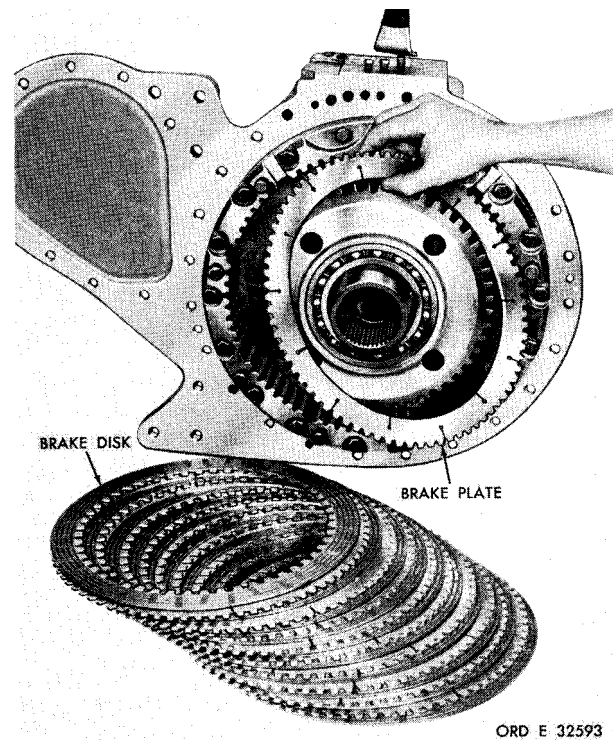

Figure 174. Installing right-brake plates and disks
**XC2** **u.** Install 10 internal- and 10 external-splined brake plates and disks, beginning with an external-splined brake plate (fig. 174).